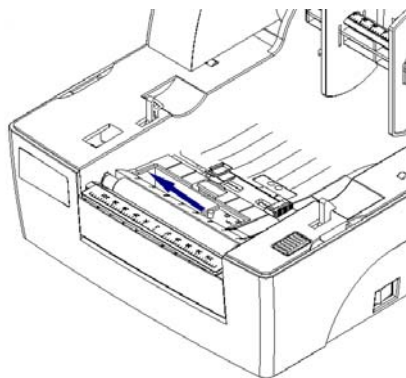

Figure 3.3.2
- 3) Pull the sensor latch to move the sensor to the required position (refer to the direction shown in the figure 3.3.2).